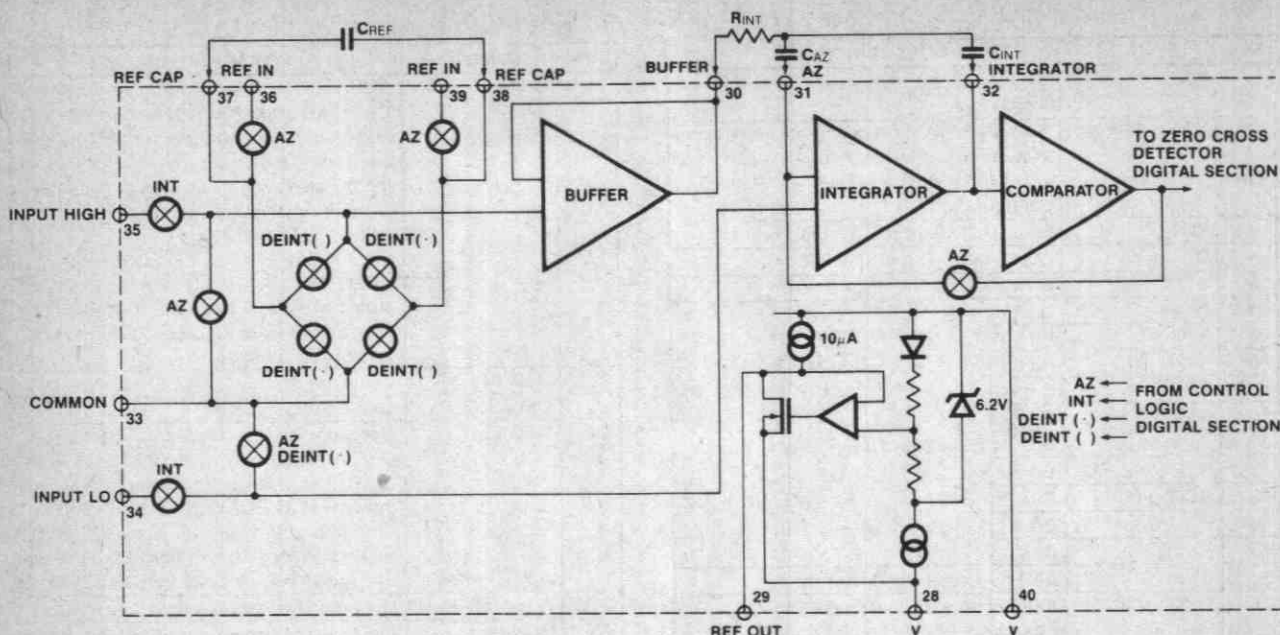
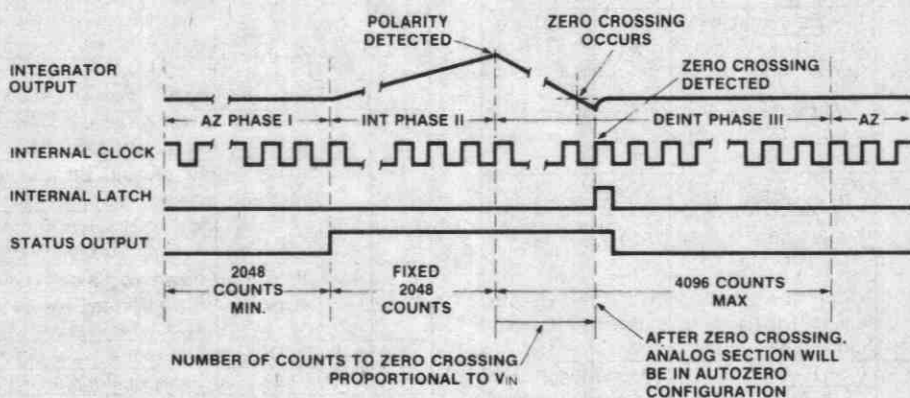

Figure 2: Analog Section
Figure 3: Conversion Timing
Figure 2 shows the equivalent circuit of the Analog Section of the ADC-7109. When the RUN/HOLD input is left open or connected to V⁺, the circuit will perform conversions at a rate determined by the clock frequency (8192 clock periods per cycle). Each measurement cycle is divided into three phases as shown in Figure 3. They are (1) Auto-Zero (AZ), (2) Signal Integrate (INT) and (3) Deintegrate (DE).
During a conversion cycle, the STATUS output goes high at the beginning of Signal Integrate (Phase II), and goes low one-half clock period after new data from the conversion has been stored in the output latches. See Figure 3 for details of this timing. This signal may be used as a "data valid" flag (data never changes while STATUS is low) to drive interrupts, or for monitoring the status of the converter.
When the RUN/HOLD input is connected to V^+ or left open (this input has a pullup resistor to ensure a high level when the pin is left open), the circuit will continuously perform conversion cycles, updating the output latches at the end of every Deintegrate (Phase III) portion of the conversion cycle (See Figure 3). In this mode of operation, the conversion cycle will be performed in 8192 clock periods, regardless of the resulting value.